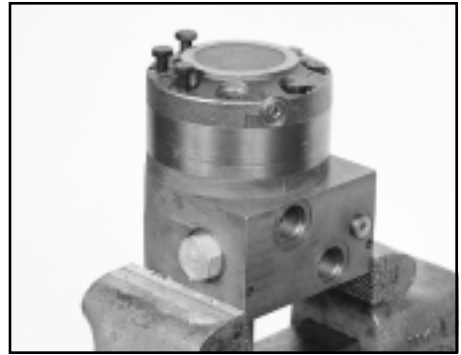

Figure D10
8. Loosen and remove the 8 5/16-24 bolts (1), remove the cover (2), locating ring, check valve balls (quantity 2) (8) and rollers. SEE FIGURES D10 & D11.